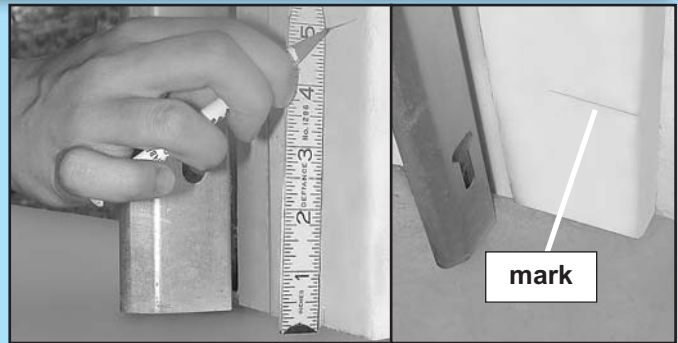

FIG. 4-1 Mark door frame.
- Mark both sides of garage door frame or wall no higher than 6" and no lower than 5" above floor (Fig. 4-1).